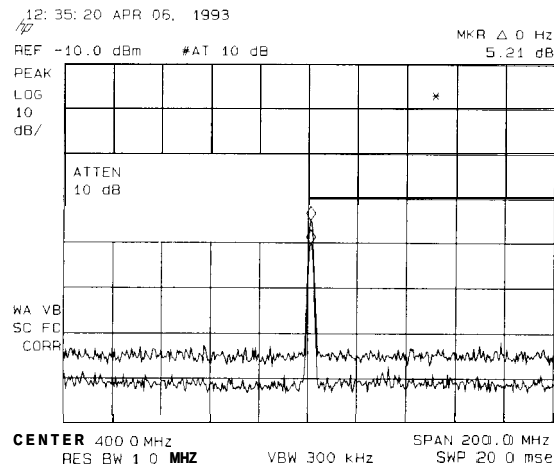

Figure 3-22. RF Attenuation of 10 dB
5. Next, increase the RF attenuation by 10 dB: press **(AMPLITUDE)**, **ATTEN AUTO MAN**, and the step-up key (**(↑)**) once. See Figure 3-22.
When the source signal amplitude is changed between trace A and trace B and there is a resulting change in the distortion product, this is shown by a change in the marker amplitude (marker-delta value). An example of the marker-delta value produced by a change in the distortion product is shown in Figure 3-22. A change in the distortion product is indicative of high-level input signals causing circuit overload conditions and producing distortion. This distortion is a function of the internal hardware of the analyzer. The input signals must be attenuated to eliminate the interference caused by the internal distortion.